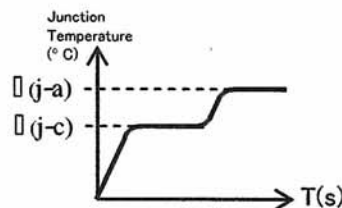

Figure 3. $\theta(j-a)$ Characteristic Plot
- For example, with heating power 1W(1V, 1A) initiated at the heating element and the temperature sampling interval from 0 to 500us to ensure thermal equilibrium is reached, the temperature dependent voltage, V_f is measured and converted to junction temperature as shown in Figure 3.